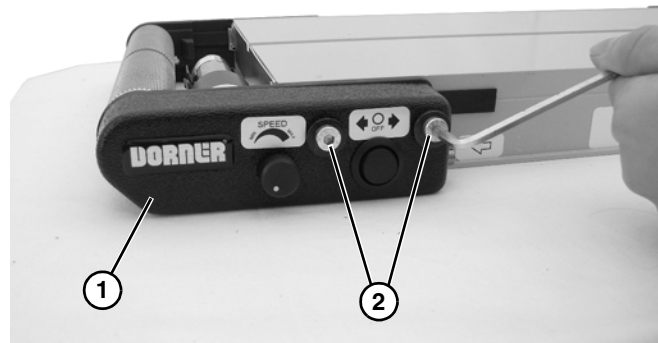

Figure 72
2. Remove inframe drive side cover (**Figure 72, item 1**) by removing two head plate fastening screws (**Figure 72, item 2**).